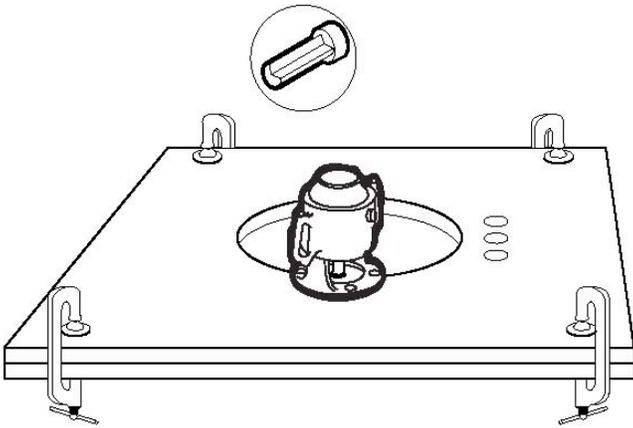

Figure C-5
- Use a 2-hp to 3-hp router with a 1" (25 mm) template guide and a  $\frac{3}{8}$ " (10 mm) carbide-tipped, single-flute bit (Figure C-5).